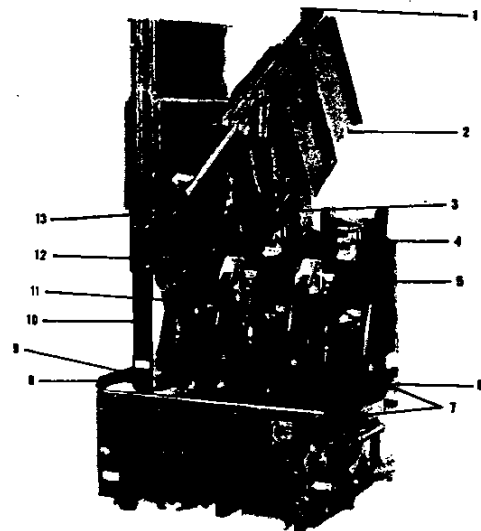
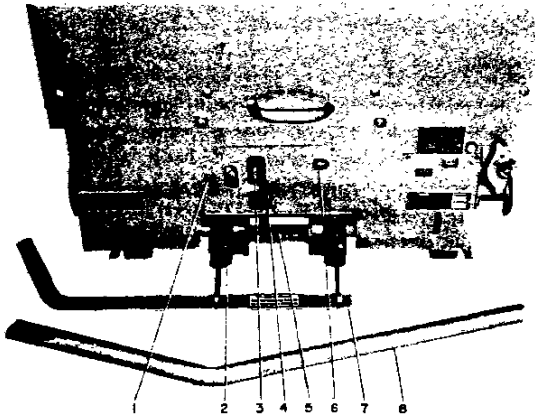

Fig. 1 — View Showing Arc Chute and Contact Structure
Fig. 2 — Front View of Control Panel
IF IT IS NECESSARY TO RAISE OR MOVE THE BREAKER, ATTACH THE LIFTING YOKE AT POINTS 7 (FIGURE 1), OR A FIFTH WHEEL AT POINT 5 (FIGURE 2) TO TRANSPORT THE BREAKER AS REQUIRED.
3.4 REMOVING ARC CHUTES (See Figure 1)
3.7 MANUAL SLOW-CLOSE TO CHECK CONTACT PRESSURE (Figure 2)
3.8 INSTALLING ARC CHUTES (See Figure 1)
3.10 INSTALLING CIRCUIT BREAKER INTO COMPARTMENT (See Figures 2 and 4)
1. Turn motor disconnect switch (if supplied) (1) Figure 2) to "OFF" position.
3. Engage fifth wheel with hole guide (5, Figure 2) and push circuit breaker into compartment until stopped.
6. With the circuit breaker racked to "TEST" position, check for proper operation by operating all possible means of opening and closing. This includes control switches, relays, etc. Turn motor disconnect switch (1, Figure 2) to "ON" position to charge the closing springs, and operate the breaker as required. If motor disconnect switch (1, Figure 2) is not provided, springs will automatically charge when approaching "TEST" position.